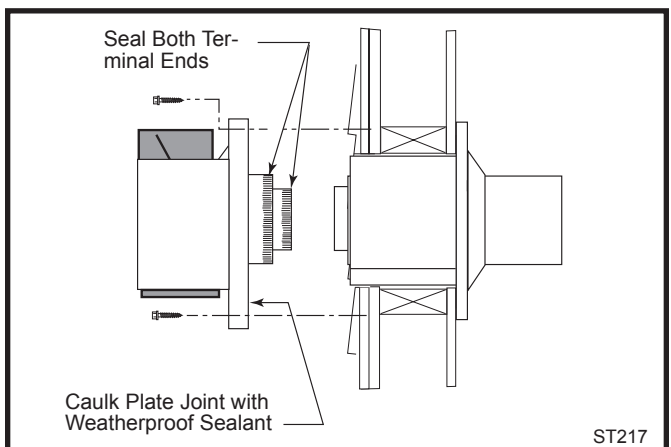

Fig. 28 Install the vent terminal.
10. **For both CFM and DuraVent Systems:** Install the vent terminal. (Fig. 28) Apply high temperature sealant one inch from the ends of the inner and outer collars. Guide the inner and outer vent termination collars into the adjacent pipes. Double check that the vent pipes overlap the collars by 2". Fasten the termination to the wall with the screws provided, and caulk the joint with weatherproof sealant.